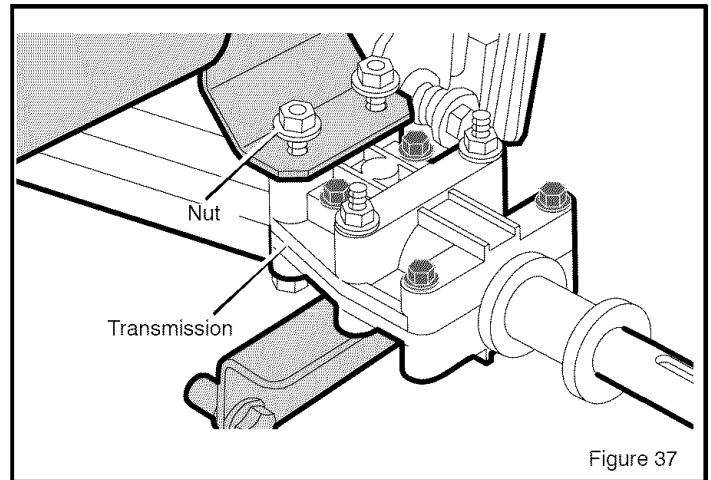

Figure 37
6. Loosen the **nuts** from each side of the **transmission** (see Figure 37). Do not remove the **nuts**. Loosen until the **nuts** are at the top of the **bolts**.